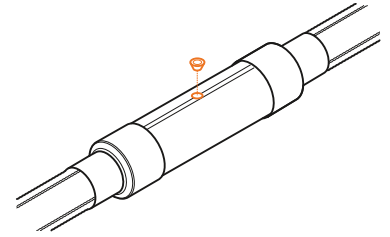

Fig. B11.1.14
14. Insert the sleeve venting plug into the hole (Fig. B11.1.14). Wait for 15 to 20 minutes. After a small amount of foam has appeared in the venting plug, wait for an additional 30 minutes.